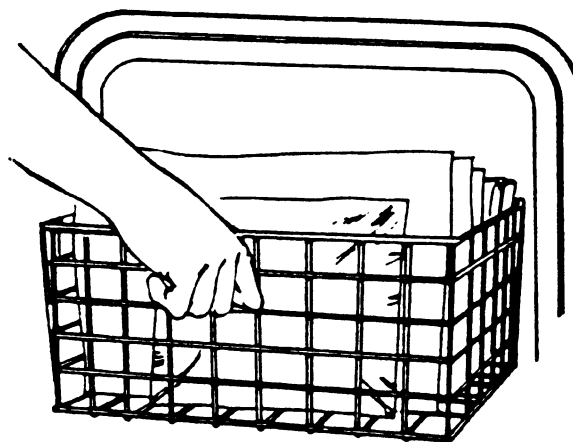

Figure 26. USE WIRE BASKETS FOR ALL ITEMS AND PLACE ON SHELF.
- 1) Use wire basket(s) for all items and place on shelf (Figure 26).